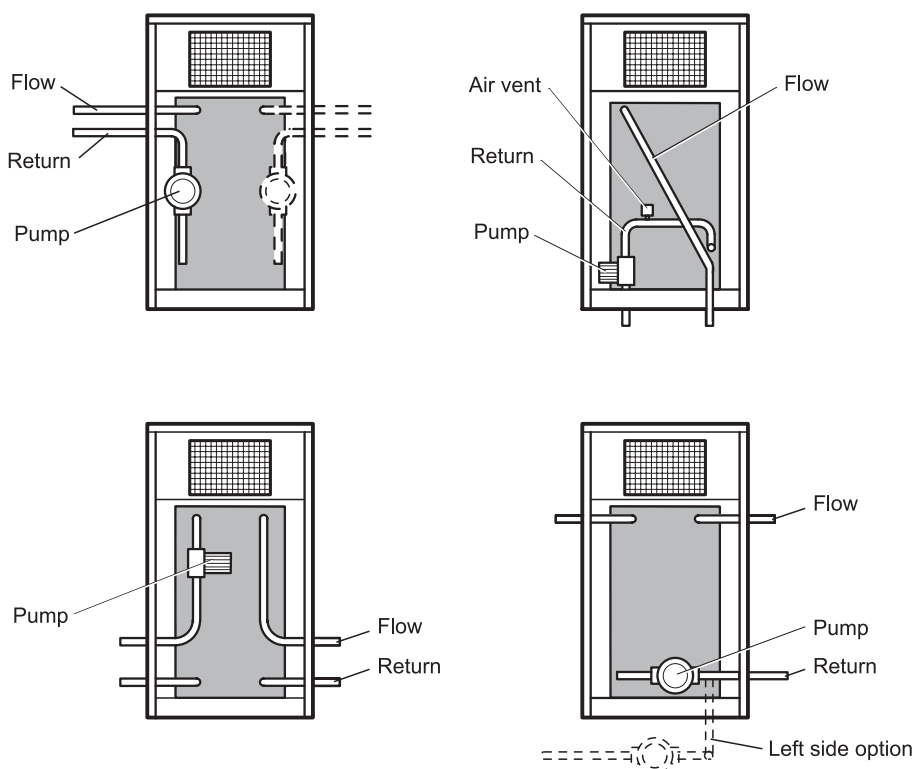
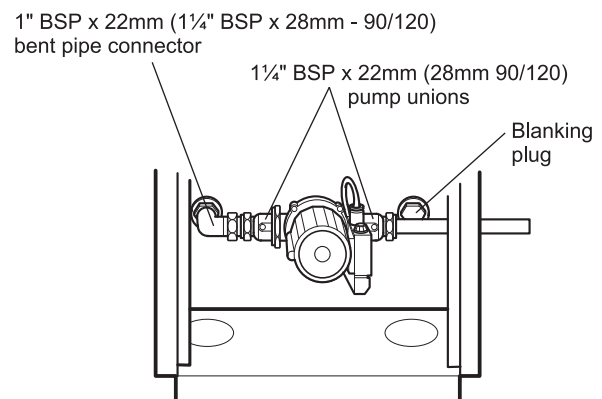

Fig. 13a - 110/140 Water connections
Fig. 14a - Rear of boiler
- 1 Two high level flow and two low level return 1¼" BSP connections are provided on the rear of the boiler (see Fig. 13a). Two 1¼" BSP plugs are provided for any unused connections. A ½" BSP tapping is provided on the top of the boiler for the connection of a sealed system kit. The kit may be fitted to either the left or right hand side of the boiler depending upon the location of the thermostat pocket. (Please read the following notes).
- 7 Connect the pump to one of the bottom tappings (as required) on the back of the boiler using the two pump unions and the other bent pipe connector supplied. Seal the other return tapping with the blanking plug supplied with the boiler. See Fig. 14a.
See Figs 14a, 14b, and 14c
- 9 If required, fit the circulating pump to one of the four tappings on the back of the boiler (see Fig. 13a). Two 1¼" x 28 mm pump unions, two 1" BSP bushes and two 1" BSP x 28 mm elbows are supplied. Seal any unused tappings with the 1¼" BSP plugs supplied (see Fig. 14a).